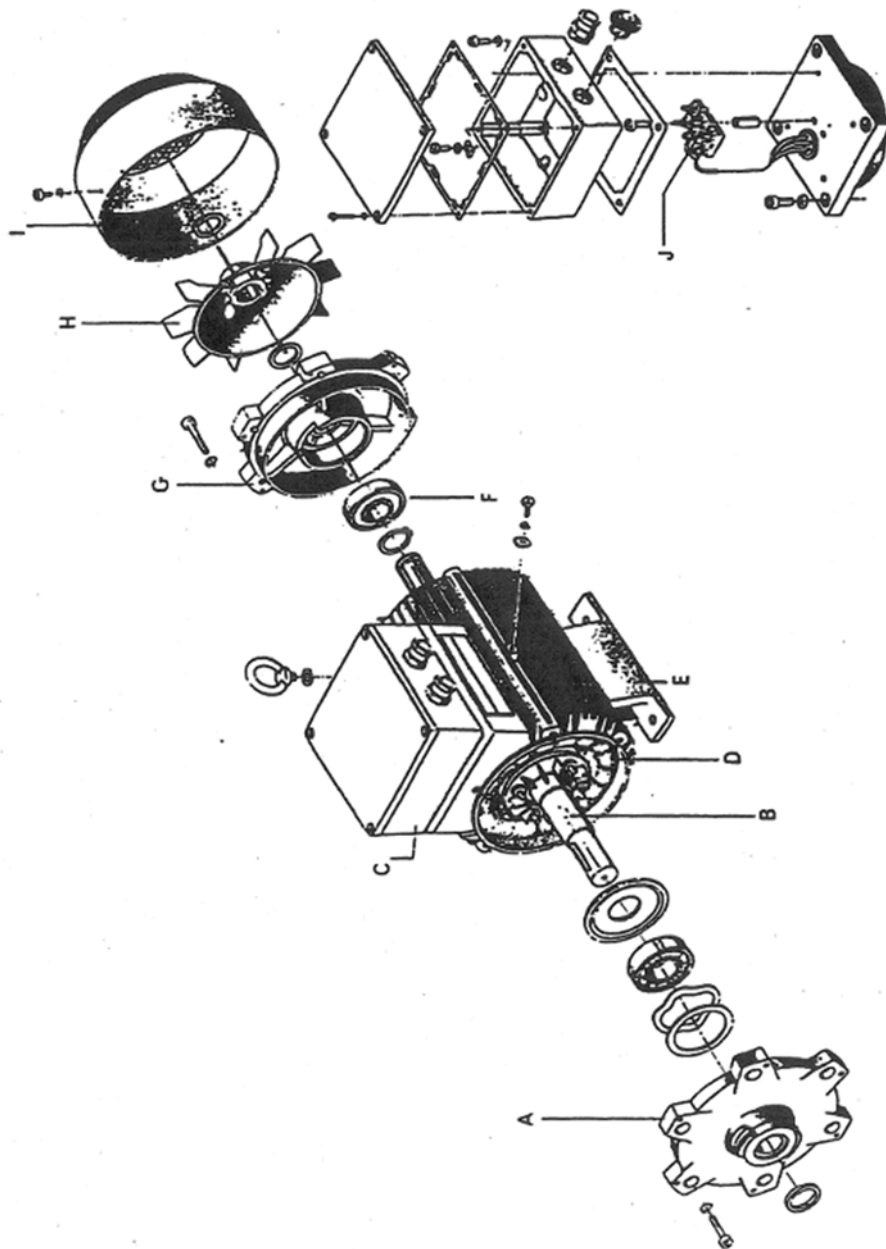

Figure 1 - Exploded view of a SIEMENS three-phase TEFC SCI motor.
2. An exploded view of a SIEMENS three-phase TEFC squirrel cage induction (SCI) motor is shown in Figure 1. Parts A to J is labelled on the diagram.
Examine the exploded view in Figure 1. Label the following parts on the diagram if they are shown: